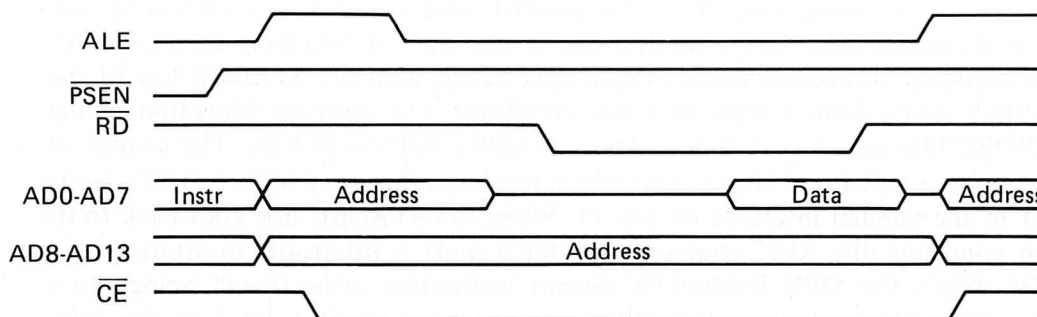

Fig. 7.14 RAM read timing diagram
Fig. 7.14 is the timing diagram for a RAM read cycle. As with the write operation the ALE, PSEN, Address/data lines and CE line timings are identical. The main difference in the read timing sequence is the amount of time that the actual read data is at a valid level. The time during which data is valid is a function of the RAM access time and should not exceed 400 nanoseconds. Data from RAM is latched in the MPU at the positive transition of the Read Data (RD) line.